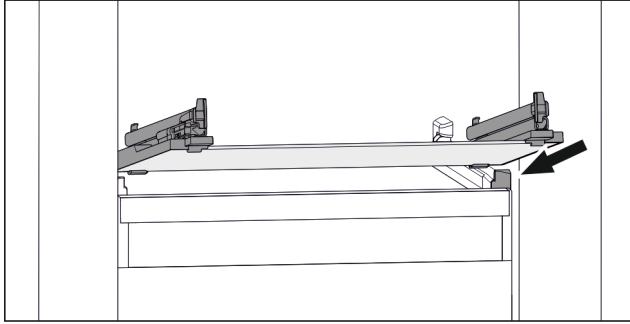

Fig. 129 Example illustration of glass shelf
- ▶ Position glass shelf at an angle behind the stoppers. (see Fig. 129)